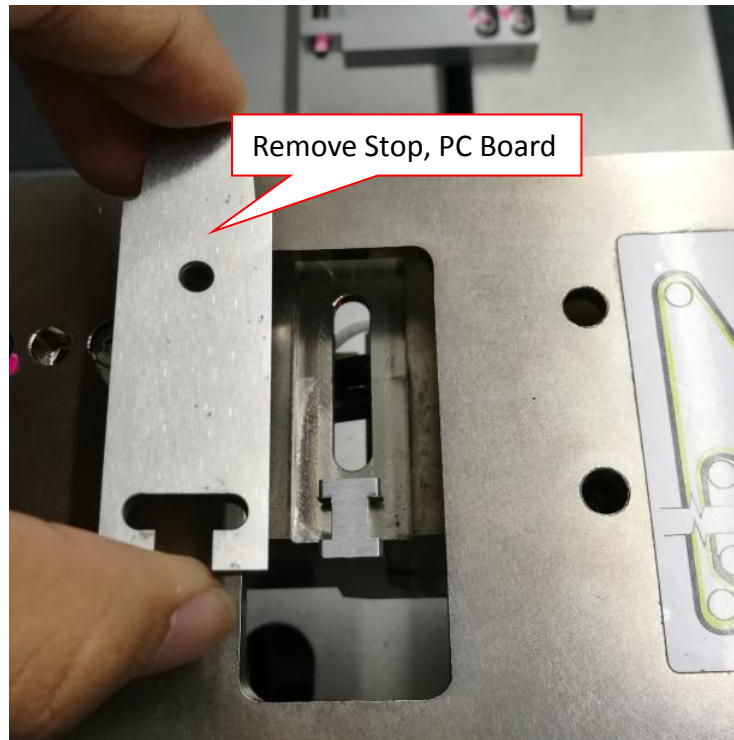

Figure 3 Stop, PC Board removal
6. Gently remove Stop, PC Board as shown in Figure 3.